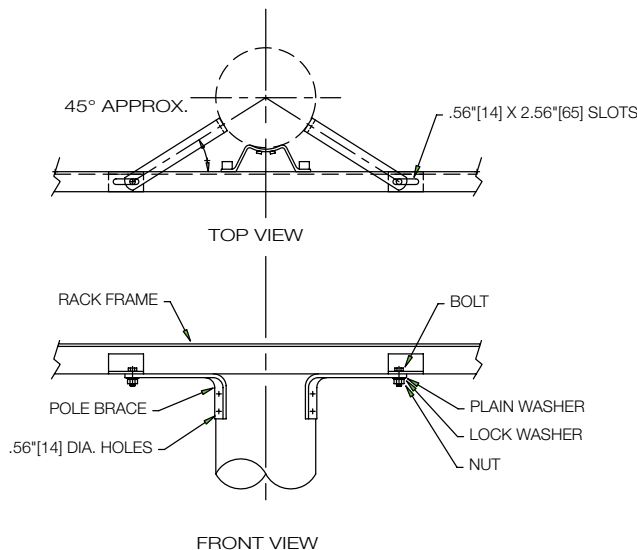

Figure 3. Pole brace installation
3. Using the lifting eyes on the capacitor bank frame, lift the capacitor bank, positioning it at the pole so that the bolts can slip into the slots on the capacitor bank pole-mounting bracket. (Figure 3)